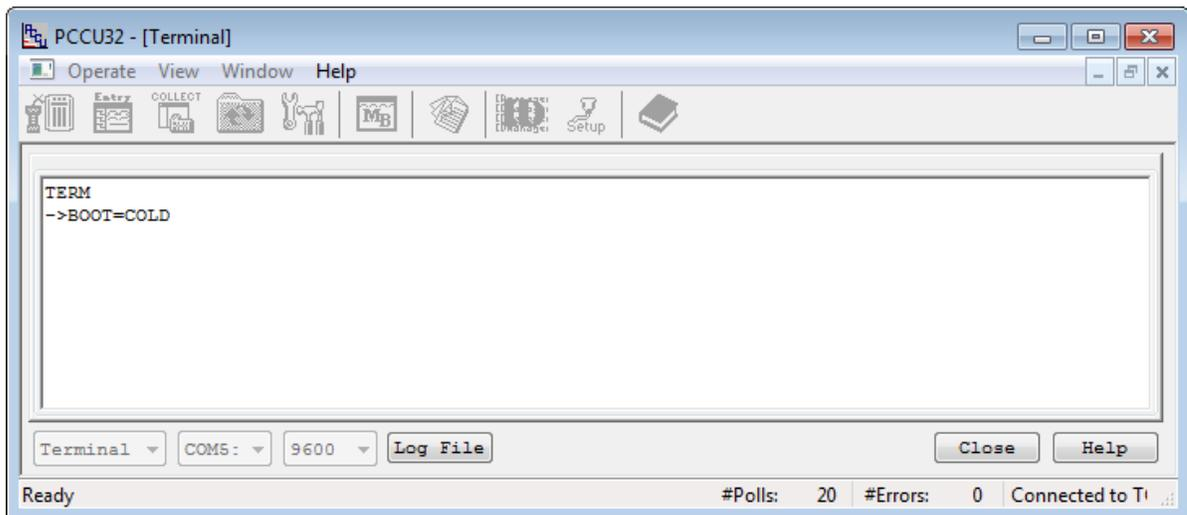

Figure 74: Terminal mode cold restart
3. At the terminal prompt (->), type the command **BOOT=COLD** (Figure 74).